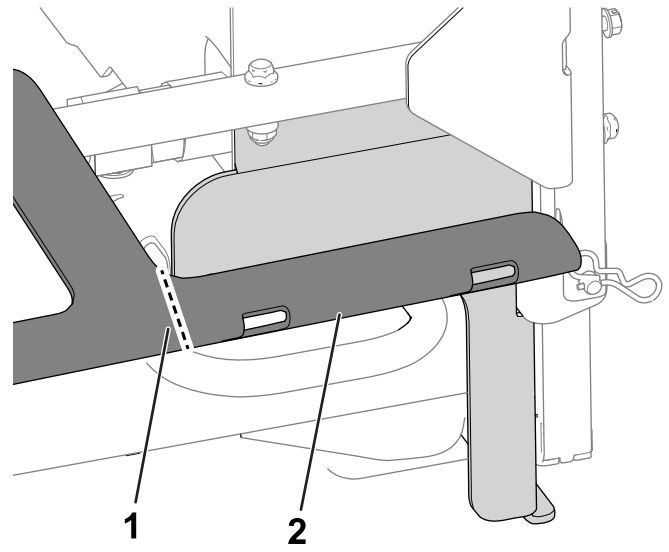

**Figure 4**
- A. Remove the bolts from the frame rail on each side of the machine (Figure 4).